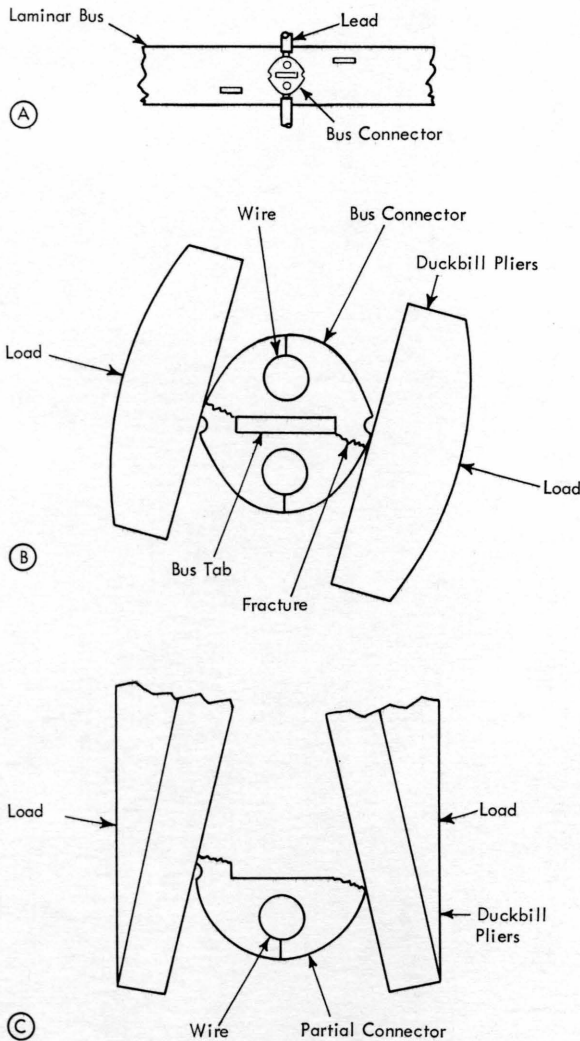

Figure 2-41. Laminar Bus Connector Removal
To remove a crimped bus connector from a tab on the laminar bus (A, Figure 2-41), apply a load slowly as indicated in the figure with a pair of duckbill pliers. If difficulty is experienced, it may be necessary to reapply the load 30 degrees out of phase with the first trial. Apply the load until the connector is fractured as shown in (B), Figure 2-41. Be careful when removing the connector so that no metallic chips drop into the machine.
the jaws of the duckbill pliers as indicated in (C), Figure 2-41 and apply a load to open the crimp. While the load is being applied, pull the wire out of the connector perpendicular to the applied load.